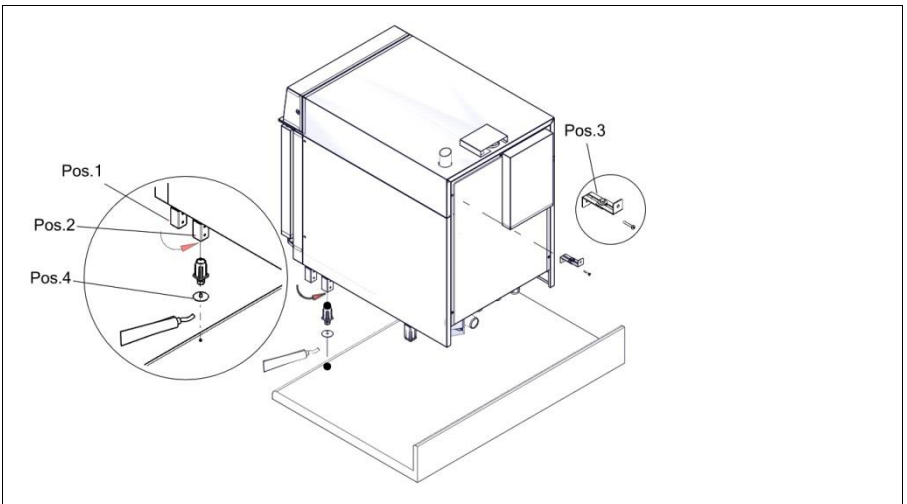

Fig. 3: Appliance fixing kit EL2002357
- ▶ When installing the combi-steamer with the front feet in position 2 (see Fig. 3), the appliance must be secured with the wall bracket (Item 3) to prevent it tipping over and the front feet must be secured with positioning plates (Item 4) to prevent it slipping.